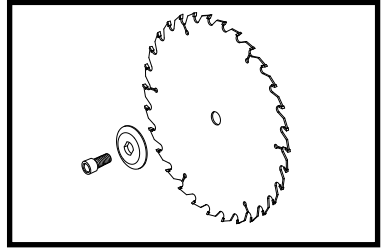

Fig 13
- 3) Place the outer blade collar against the blade and on the arbor. Thread the arbor bolt onto the arbor in a counterclockwise direction. (See fig. 13)